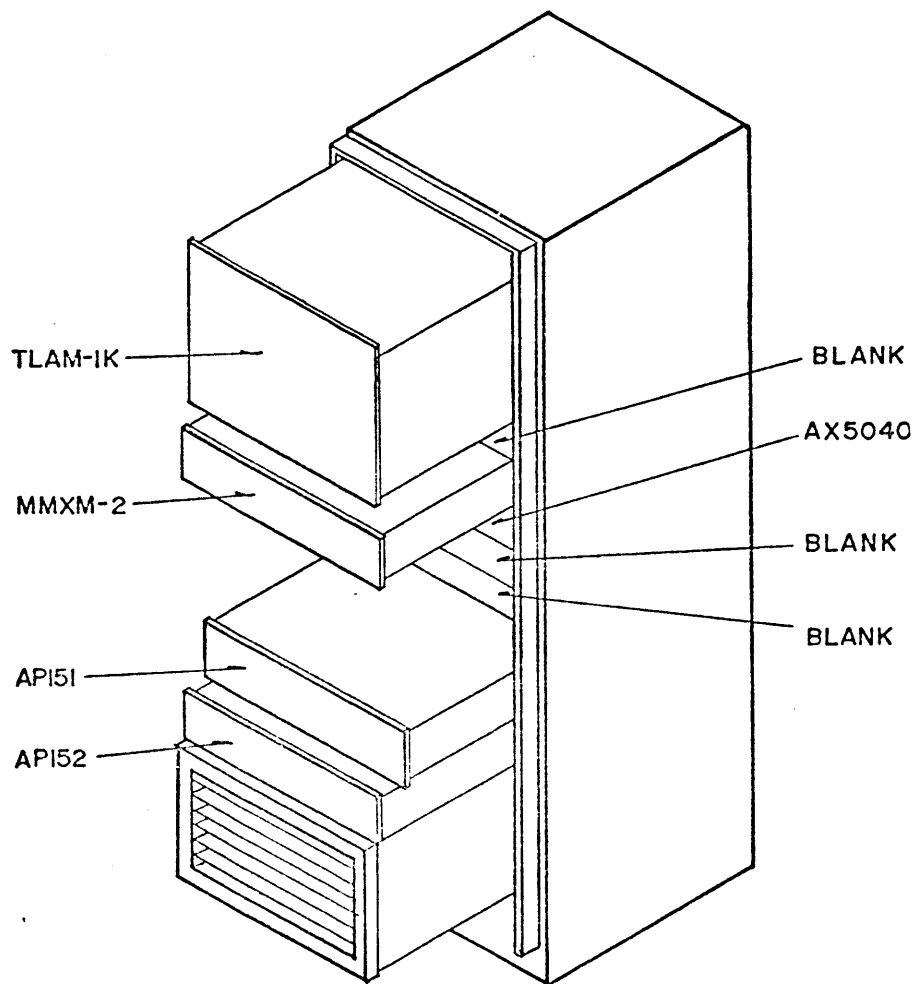

Figure 2-3. HFTM-1KJ2 Modular Unit Installation
c. Modular Unit Installation. The component location for modular unit installation in the HFTM-1KJ2 transmitter is shown in figure 2-3. Except for the AX5040 test key panel, all transmitter units are slide mounted. The modular units of the HFIM-1K should be installed into the equipment cabinet by referring to the detailed installation procedural steps in Section 2 of Technical Manual for Linear Power Amplifier HFIM-1K. The exciter unit MMX(M)-2 should be installed in the same manner.